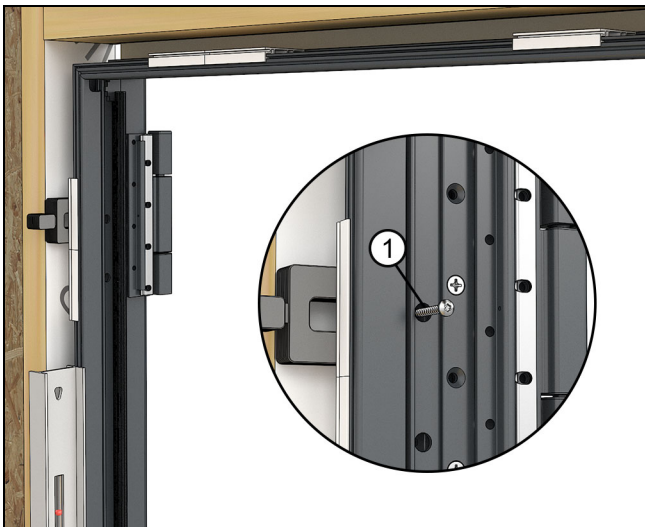

Figure 42
8. Plumb and pin the opposite top corner. See Figure 42.